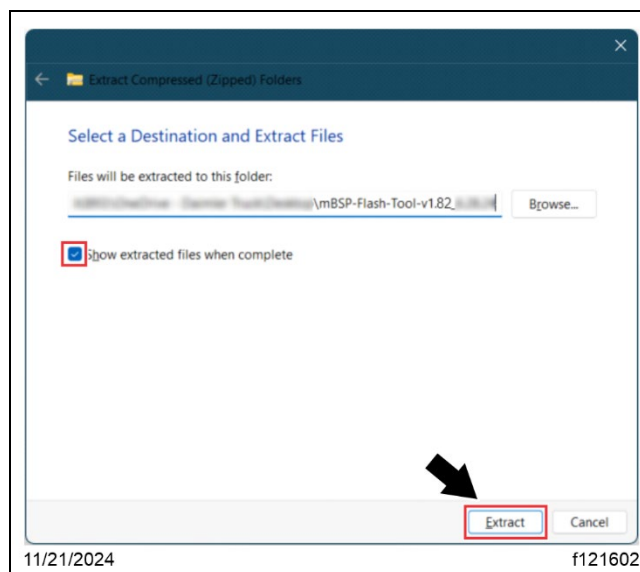

Fig. 26, Extract Compressed Folders Window
6.2. The 'Extract Compressed (Zipped) Folders' window opens. Select the checkbox next to 'Show extracted files when complete,' then select 'Extract.' See Fig. 26.